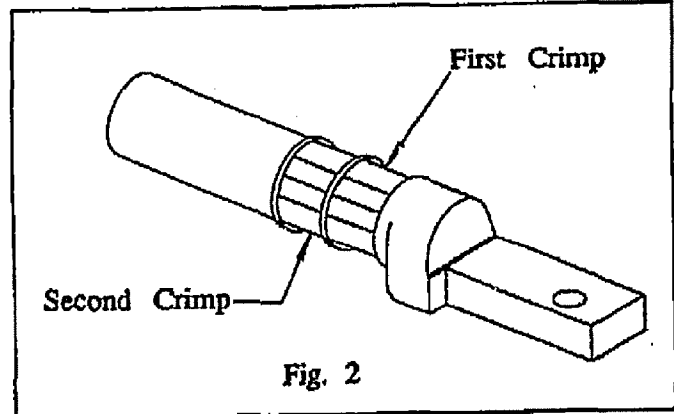

Fig. 2
8. Select an appropriate tool and die combinatin from Table 2 and make the required number of crimps within the boundaries stamped on the connector barrel. Refer to Figure 2 for sequence of multiple crimps.